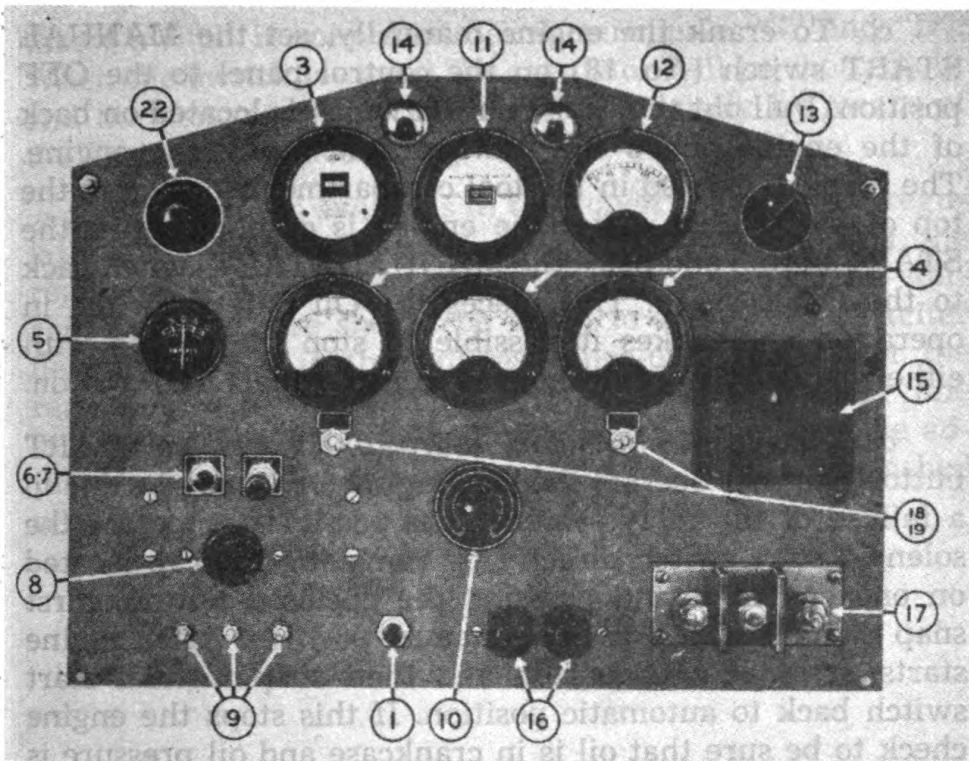

FIGURE 4—CONTROL PANEL. FRONT, POWER UNIT PE-99-E
a. Open the control cabinet doors (figure 4). Be sure that the Main Circuit Breaker (No. 15) is open by pulling the handle down. Set the REGULATOR switch (No. 19) to the ON position. Set the MANUAL START switch (No. 18) to the ON position. To start the unit, push the START button (No. 7) on the control panel or throw the Remote Control cable switch to the ON position. As soon as the engine starts, release the start button. Do not crank continuously for more than 30-second intervals. If the engine does not start promptly, refer to the Trouble Chart on Page 39. To stop, momentarily push the STOP button (No. 6) or throw the Remote Control switch to the OFF position.
- (1) Be sure the Main Circuit Breaker is in the OFF or down position.
- (2) Move the "A.C. VOLTS" switch (No. 13) to the 1, 2, or 3 position, to be able to read the A.C. Voltmeter (No. 12) in the upper right of the control panel.
- (3) Move the REGULATOR ON-OFF Switch (No. 19) to the ON position.
- (4) Turn the Shunt Field Rheostat knob (No. 10), in the center of the control panel, in a clockwise direction all the way.